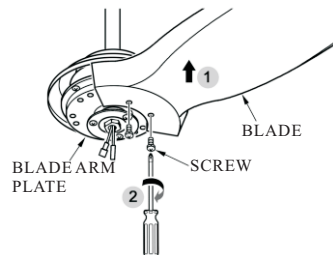

FIG.10
1. Attach the blade and decorative blade onto the blade arm plate. Make sure one blade and one decorative was installed alternately. (See Fig 10 & 11)